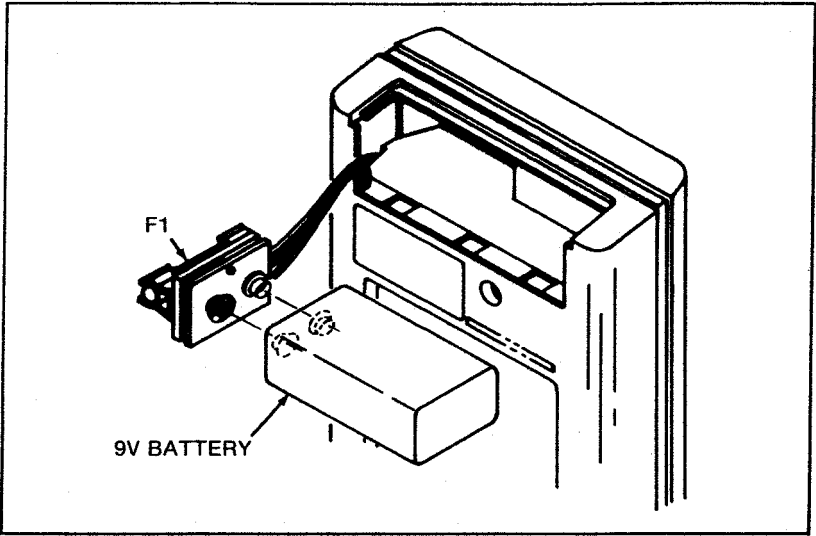

Figure 1-2. Battery Clip and Fuse Holder
5. Carefully pull the battery clip free from the battery terminals as shown in Figure 1-2.